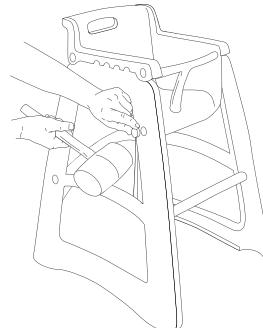

Figure 7
- Seal screw openings with covers. Use a rubber mallet to apply. Wear safety glasses during cover application. (See Figure 7)